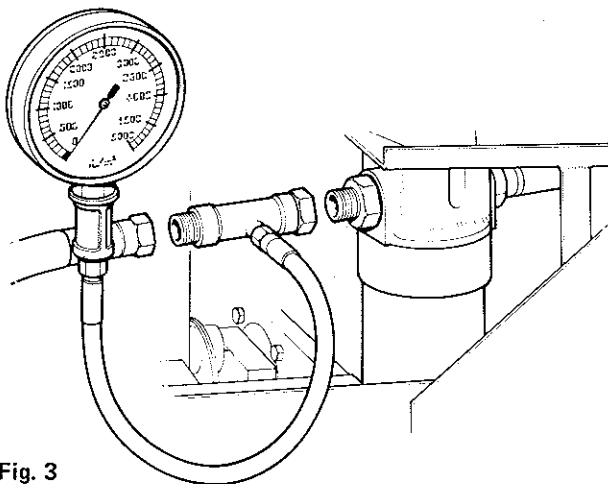

Fig. 3
(1) Pressure gauges: 0-350 kgf/cm² (0-5,000 lbf/in²) and 0-700 kgf/cm² (0-10,000 lbf/in²).
(2) Hand operated pump, 0-700 kgf/cm² (0-10,000 lbf/in²) capacity.
(3) Set of A/F. spanners.
(4) Screwdriver.
(5) Special extractor for the removal of the Service Line Relief Valve (S.L.R.V.)
(6) Tee adaptor, 1in BSP male/female. ½in BSP tee. (Hydraulic filters).
(7) Tee adaptor, 3/8in BSP male/female. ½in BSP tee. (Steering pump relief valve.)
10. Fig. 3 illustrates a pressure gauge fitted to the tee piece, ready for the Main relief Valve (M.R.V.) and unloader test. Fig. 5 shows the arrangement for the Cross Line Relief Valve (C.L.R.V.) test. Fig. 7 shows the arrangement for the Service Line Relief Valve (S.L.R.V.) test. Fig. 8 shows the arrangement for the steering pressure test.
14. **Pressure gauge. Fit.** (fig. 3) Connect 0 – 350 kgf/cm² (0 – 5,000 lbf/in²) gauge to the tee piece.